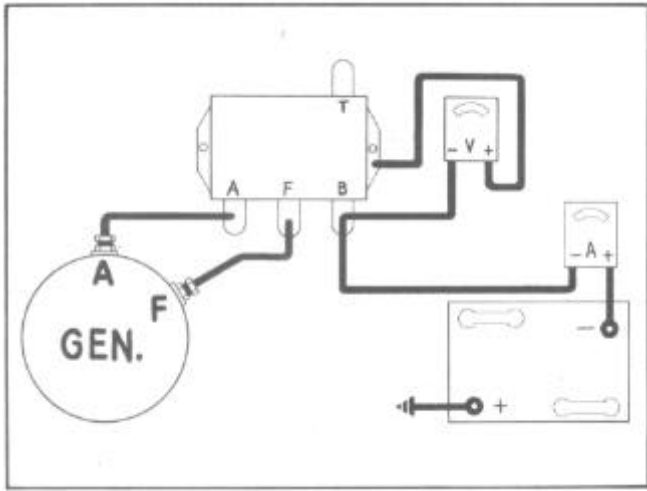

FIGURE 14
1. Remove wires from regulator "B" terminal and connect ammeter between this terminal and the battery lead. Figure 14.
1. Connect ammeter and voltmeter as for voltage regulator check. Figure 14.